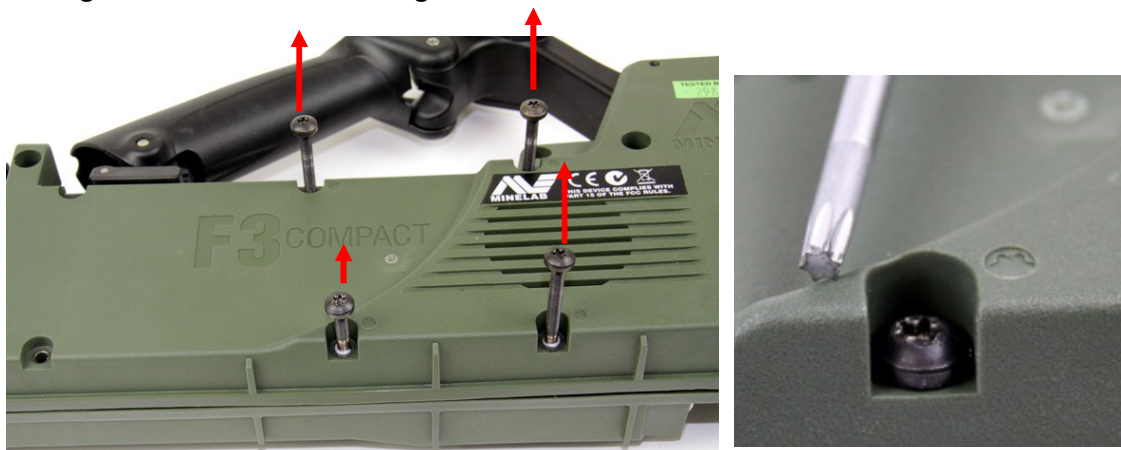

Figure 13: Removing four (4) Torx Screws
- Using a T20 Torx (star) driver unscrew all four (4) screws (3 x 35mm and 1 x 20mm) from the right side of the detector. Figure 13.